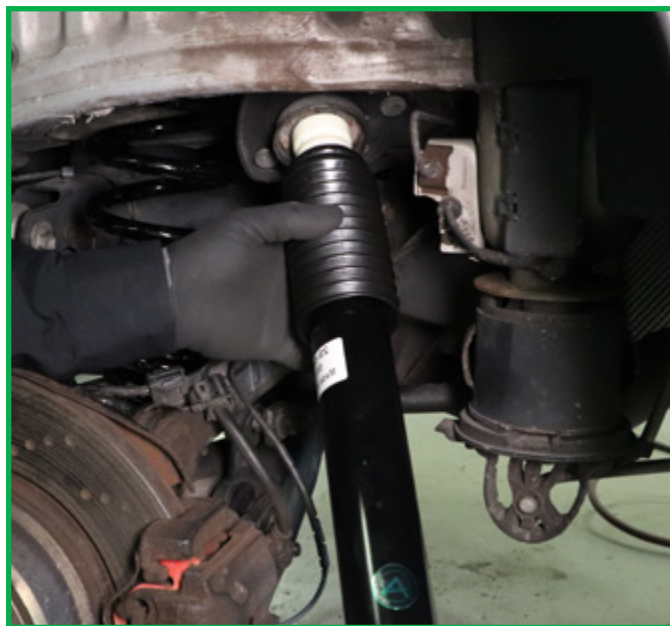

FIGURE 43
8. Insert new shock into vehicle. (Figure 43)